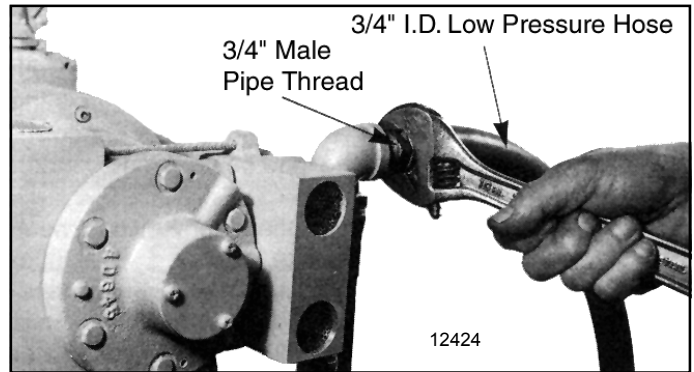

Figure 2-1. Connecting Air Hose to Hoist
- a Connect hoist to nearest filtered and lubricated air source using 3/4" I.D. air hose (see Figure 2-1). Avoid use of hose assemblies of smaller diameters that will cause air flow restrictions and reduce hoist performance.